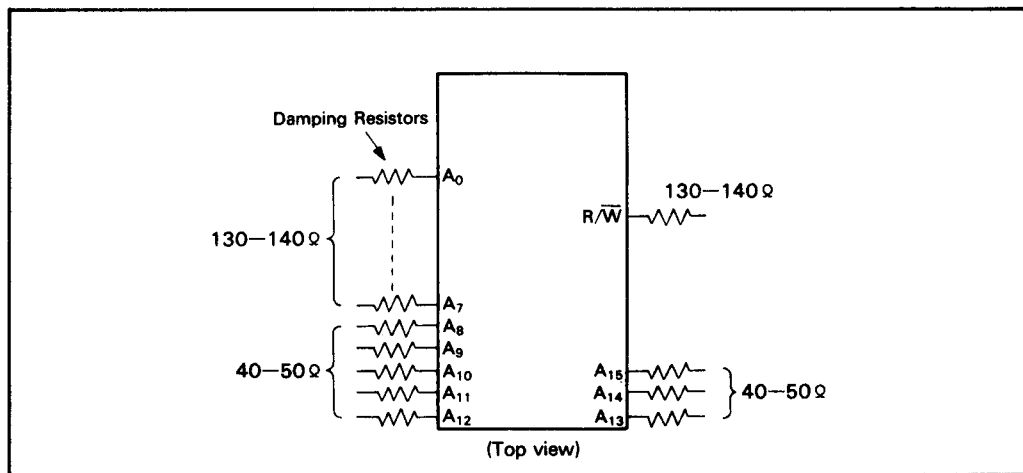

Figure 22. Connecting Damping Resistors to Address Bus
4. Insert the damping resistors to the address bus. That is effective for the noise level to reduce less than 0.8 V. The damping resistor is about 40-50  $\Omega$  on the higher byte of the address bus ( $A_{15} - A_8$ ) and about 130-140  $\Omega$  on the lower byte of the address bus ( $A_7 - A_0$ ), and  $R/\bar{W}$  as shown in figure 22. Electrical characteristics do not change by inserting the damping resistors.